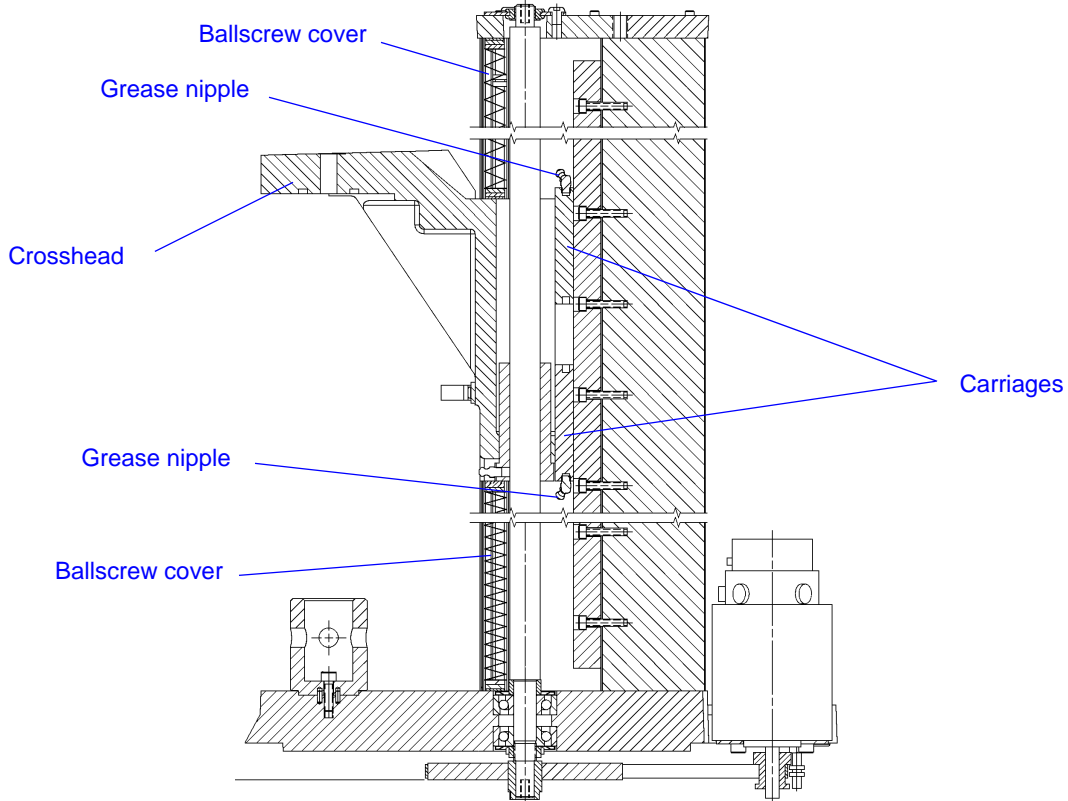

Figure 5-3. Lubricating the Linear Guide Carriages
2. Detach the ballscrew covers from the crosshead and slide them away from the crosshead. Refer to Figure 5-3 on page 5-10 to locate the grease nipple on each carriage.